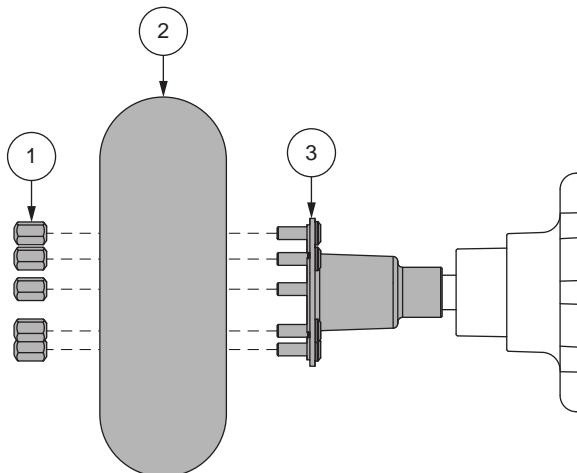

Figure 22. Drive Wheel Removal
4. Remove the lug nuts from the hub. See figure 22.